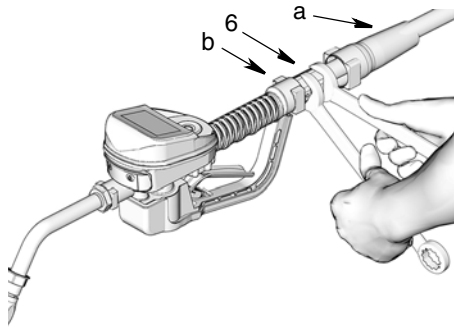

FIG. 7
2. Slide the swivel boot (a) back, over the hose, small end first to access the swivel fitting (6) (FIG. 7).
swivel (6). Use two wrenches to tighten securely (FIG. 7).